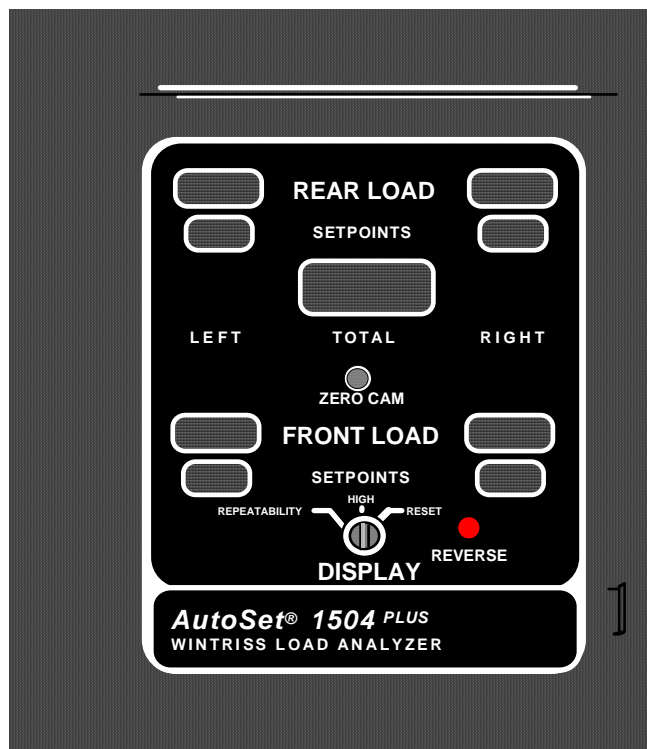

Figure 2-1. AutoSet 1504 Plus mounting dimensions
2. Drill holes for mounting (see Figure 2-1). Shockmount studs are 1/4–20. Tap holes and mount the enclosure using the enclosed shock mounts. Use a No. 7 drill and 1/4–20 tap.